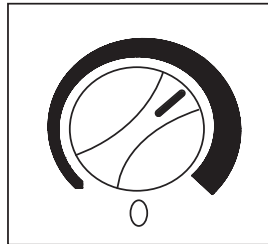

Fig.1
- When maximum cooling is achieved, turn back the temperature control knob setting to the 2 o'clock position on the graduated blue control dial. **See Fig.1.**